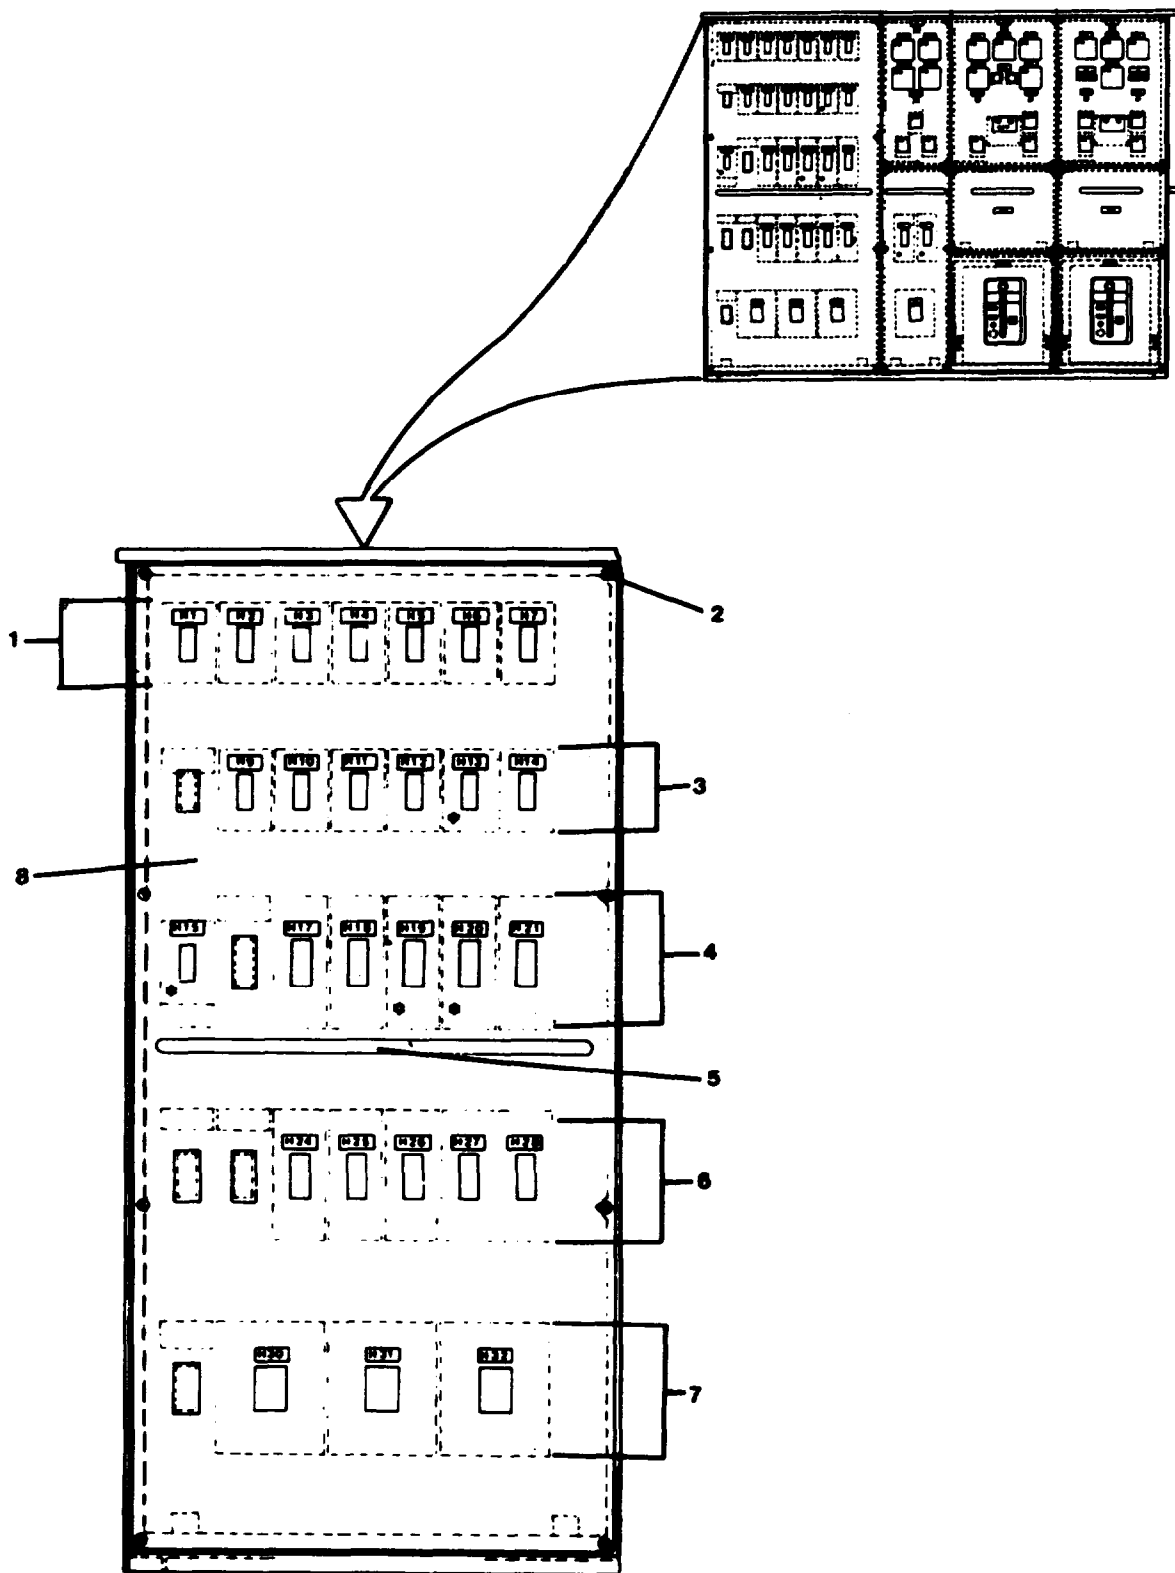

FIGURE 2-207. Ship Service Switchboard Left Hand Panel.
2-291. Repair Ship Service Switchboard Circuit Breakers. (FIGURE 2-207)
- a. Turn door panel screws (2, FIGURE 2-207) counterclockwise to loosen.
- b. Remove door panel (8) using handrail (5). Store door panel (8) in safe out-of-way place.